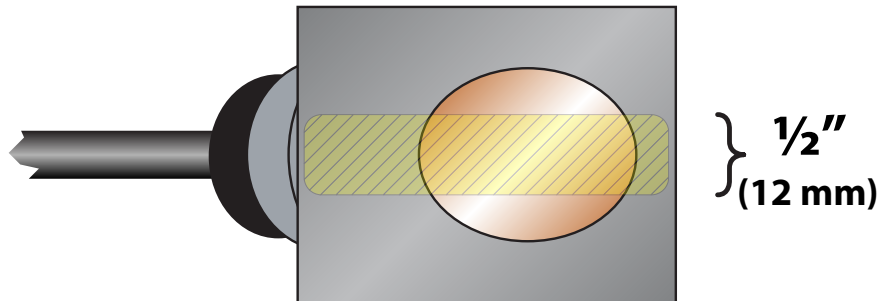

FIGURE 5.3 - APPLICATION OF COUPLANT
For DTTN and DTTL transducers, place a single bead of couplant, approximately ½ inch (12 mm) wide, on the flat face of the transducer. See **Figure 5.3**. Generally, a silicone-based grease is used as an acoustic couplant, but any grease-like substance that is rated not to “flow” at the temperature that the pipe may operate at will be acceptable.
- 5) For DTTN and DTTL transducers, place a single bead of couplant, approximately $\frac{1}{2}$ inch (12 mm) thick, on the flat face of the transducer. See **Figure 5.3**. Generally, a silicone-based grease is used as an acoustic couplant, but any good quality grease-like substance that is rated to not “flow” at the temperature that the pipe may operate at will be acceptable.
- 4) Place a single bead of couplant, approximately $\frac{1}{2}$ inch (12 mm) thick, on the flat face of the transducer. See **Figure 5.3**.